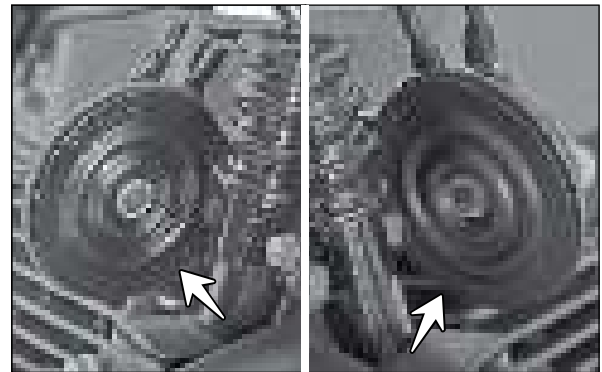

Fig. 5.22
- The horns are mounted on the frame at the front side of the vehicle below the fuel tank. (Fig. 5.22)
- The DC output orange wire (Or) from the ignition lock is connected to the horns directly and the negative green wire (G) from the horns is connected to earth through the horn switch.